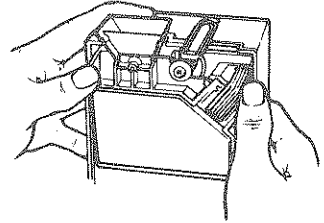

Fig. 2. Lowering the Acceptor Gate Assembly
- Lower the Acceptor Gate Assembly by depressing both spring clips (Fig. 2). Hinge the Acceptor forward.